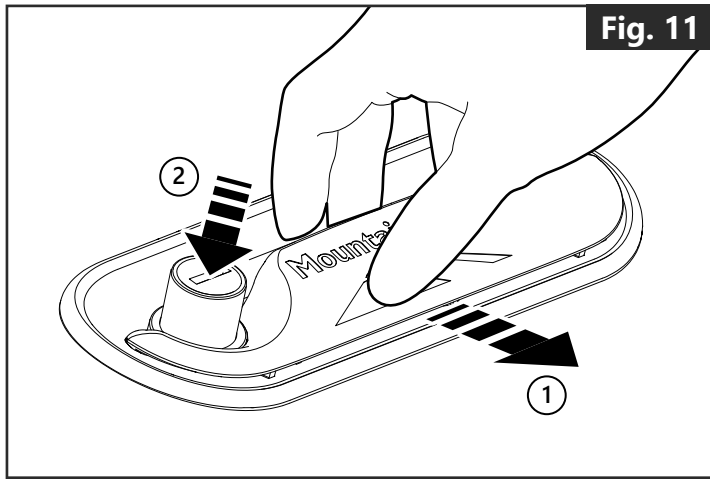

Fig. 11
- Pull back on the handle, and press down on the lock cylinder. The lock is now disengaged, and can be moved. (**Fig. 11**)